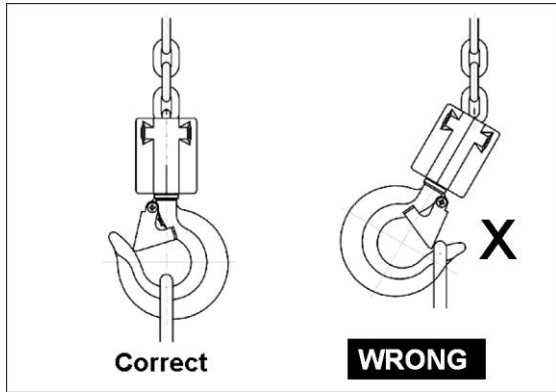

Figure 12-2
- Place load sling or chain in center of bottom hook, making sure the safety latch is secure. **Never load the hook in front of the safety latch.** See Figure 12-2.